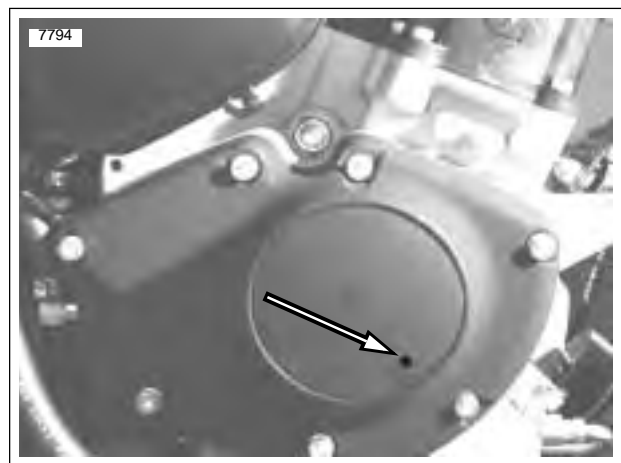

Figure 7-18. Drill Hole Location for Drilling/Removing Timer Cover
See Figure 7-18. The rotor cup is located in the gearcase cover on the right side of the vehicle behind the integrated ignition module. The rotor is mounted on the camshaft and operates at one-half crankshaft speed. See IGNITION TIMING for information on the function, testing and adjustment of the integrated ignition module and trigger rotor assembly.
7. See Figure 7-18. Drill hole in outer timer cover at 5:00 position approximately 0.500 in. (13 mm) in from outside edge. Pull out outer timer cover using 90 degree pick or other suitable tool.
7. See Figure 7-18. Drill hole in location shown and remove outer timer cover, if not removed.
10. See Figure 7-18. Tighten module plate screws to 10-20 **in-lbs** (1-2 Nm).